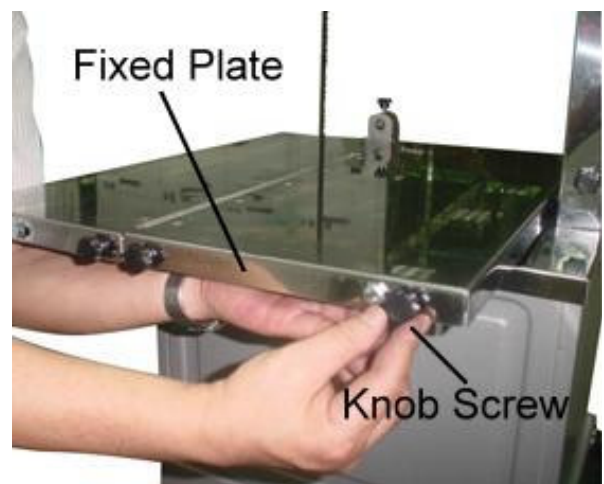

Fig.15
4. Attach the rails to the table end with knob screws as shown in (Fig.15)